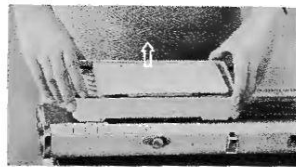

Fig. 4
4. Remove the accessory box on the needle bed, the accessory box is on the right. Lift the accessory box and it will come off from the needle butts and rail. (See Fig. 4) Place it in the upper case, it contains table clamp, rowcounter, accessory kit etc.